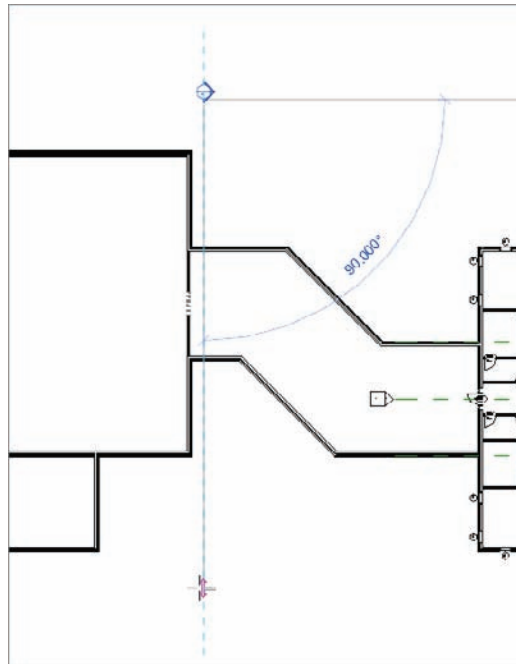

FIGURE 3.33 Placing the section into the model
3. A section takes two picks to place into the model. You must first pick the point for the head; then you must pick a point for the tail. To place the section as shown in Figure 3.33, first pick a point above the corridor and to the right of the vertical wall.
4. After you pick the first point, move your cursor straight down the view. When you are positioned directly below the bottom corridor wall, pick the second point (see Figure 3.33). If the section is facing the wrong way, that's fine. You will fix that in a moment.